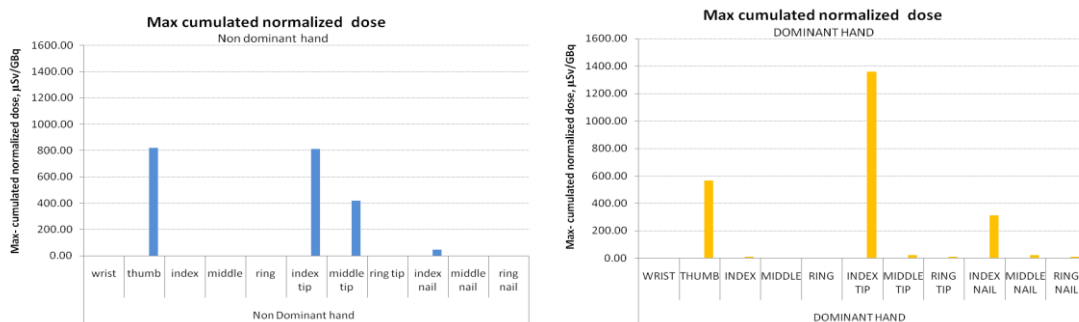

Figure 5: Maximum cumulated normalized dose. Hands independents
- e. Plot of the cumulated maximum dose considering hands independents. In the x-axis the measuring positions (11) and in the y-axis the maximum cumulated normalized dose. (only add the dose value whenever it is the maximum of the 11 measuring points). See Figure 5.